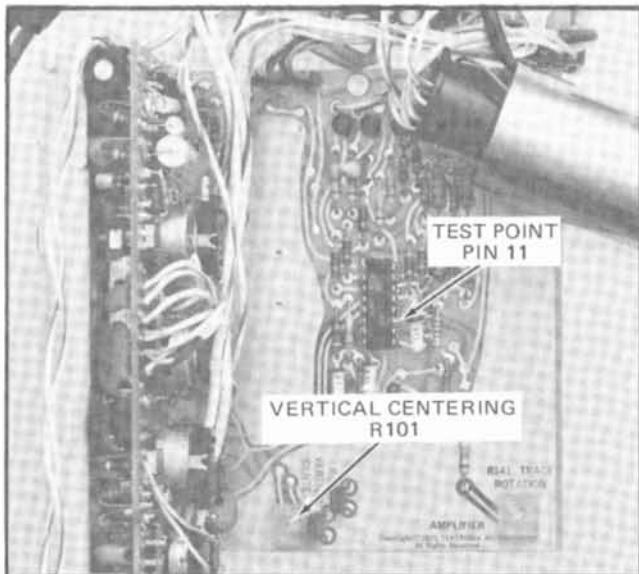

Fig. 4-6. Location of Vertical Centering adjustment and test point.
- Connect the DC Voltmeter between pin 11 of U105, on the Amplifier (A-2) board, (positive meter lead to pin 11) and ground. See Fig. 4-6.
d. ADJUST—Vertical Centering, R101 (see Fig. 4-6) to position the trace to the center horizontal graticule line.